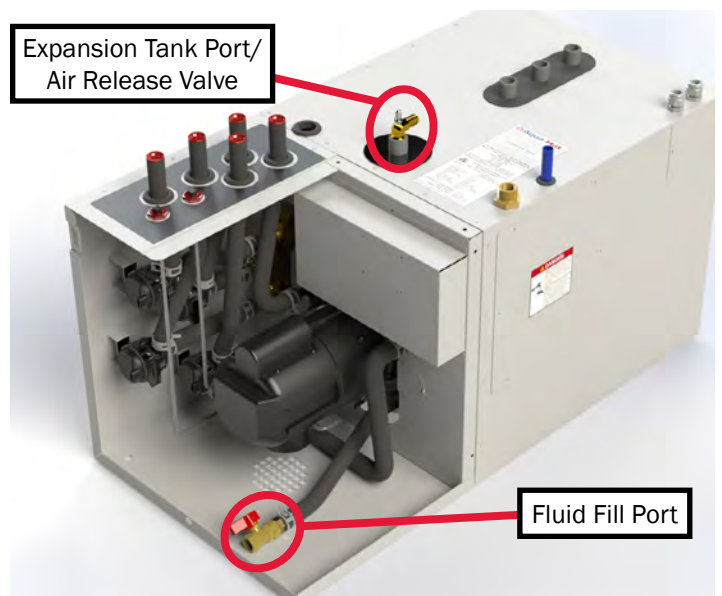

Figure 181
3. Open the Aqua-Hot's drain valve located at the front of the heater. Reference Figure 181.